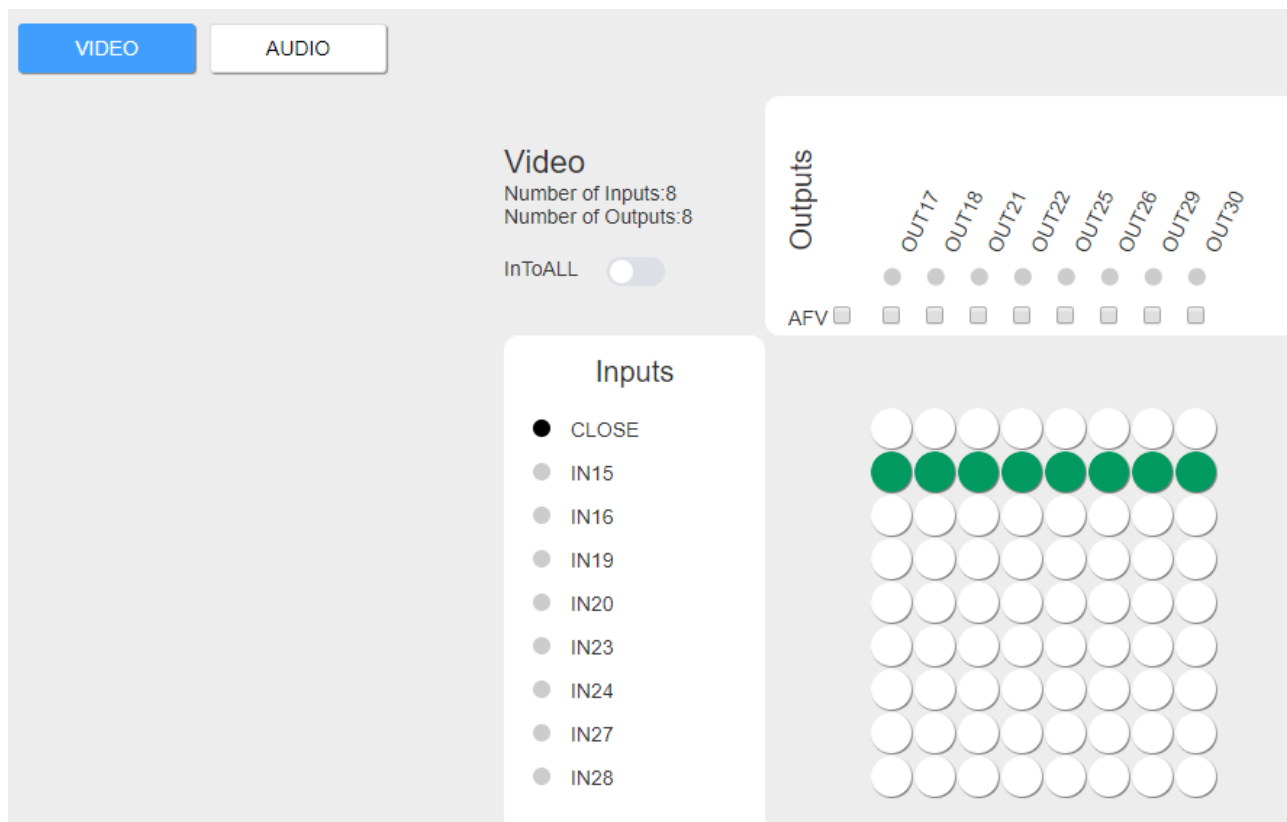

Figure 18: Routing Settings Page – Video Switching Tab
1. Go to the Routing Settings page (Figure 18).
You can also access a port information/configuration panel by clicking the relevant port on the Routing Settings page (Figure 18).